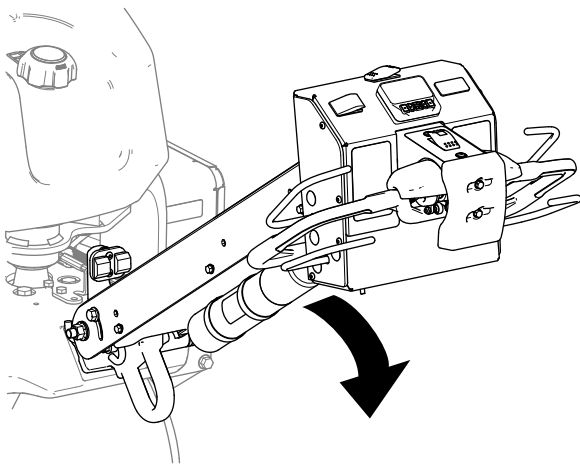

Figure 69
2. Lower the handlebar to release the parking brake (Figure 69).